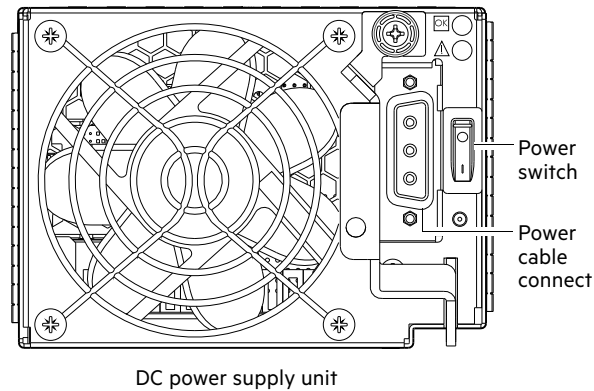

Figure 14 DC power supply
See Figure 14 and Figure 15 when performing the following steps:
Press the power switches at the back of each drive enclosure to the **On** position. Allow several seconds for the disks to spin up. See also Figure 14 \(page 26\).
Press the power switches at the back of the controller enclosure to the **On** position. Allow several seconds for the disks to spin up. See also Figure 14 \(page 26\).
3. Press the power switches at the back of the controller enclosure to the **Off** position. See also Figure 14 \(page 26\).
4. Press the power switches at the back of each drive enclosure to the **Off** position. See also Figure 14 \(page 26\).